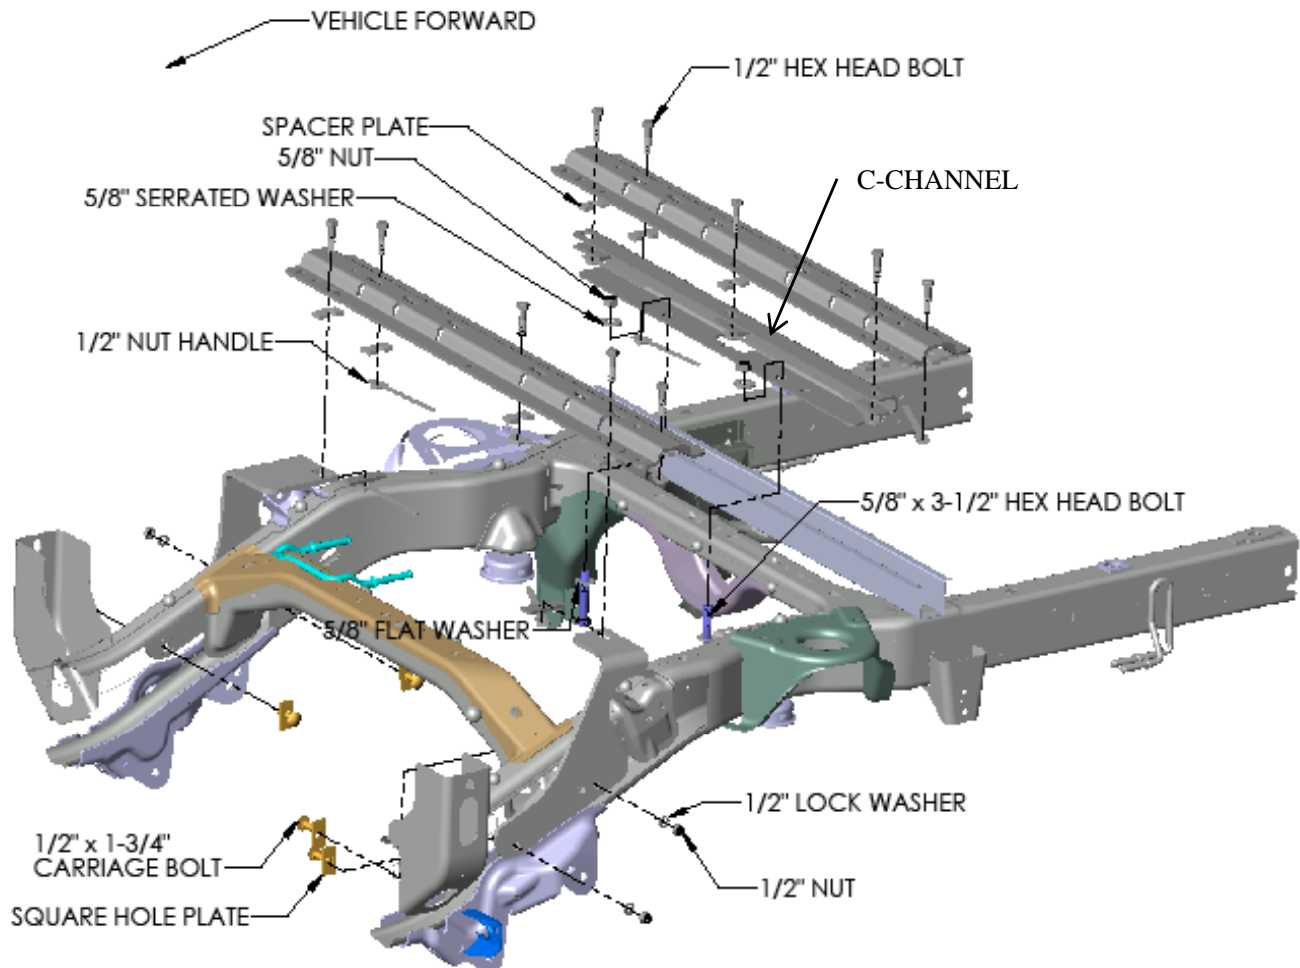

FIG. 1
12. Fasten the c-channel to the vehicle frame as shown in Figure 1 using 5/8" hardware. Bolt up through the trucks cross member.
12. Fasten the c-channel to the vehicle frame as shown in Figure 1 using 5/8" hardware. Bolt up through the trucks cross member. Install the 1-3/4" long tube spacers above the channel.